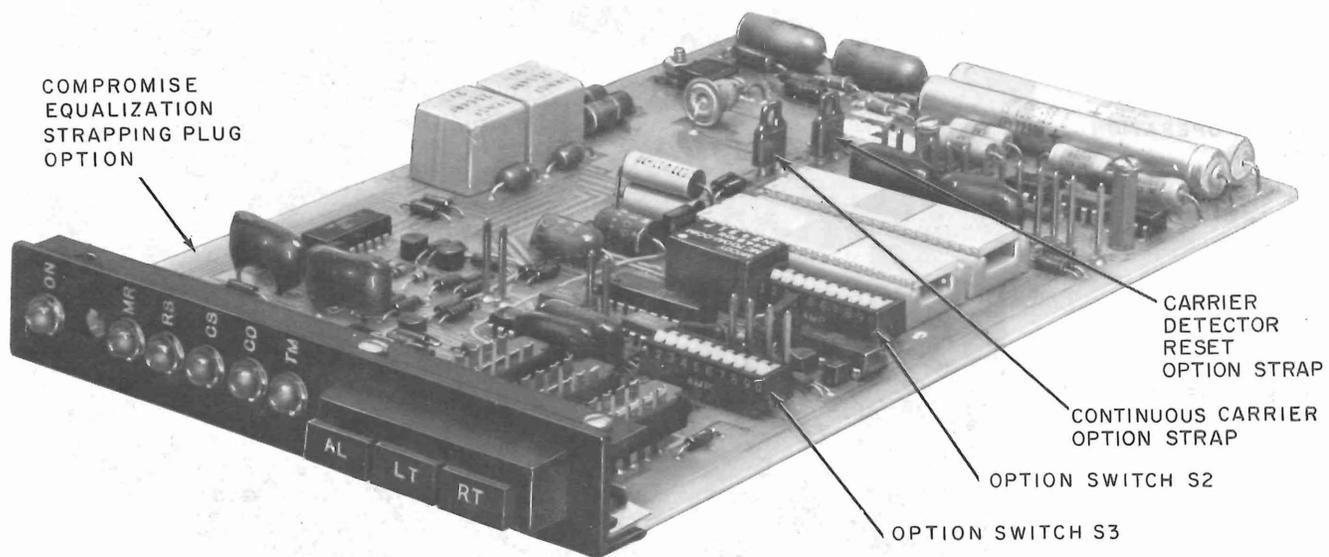

Fig. 12—Data Set 202T
2.11 Data Set 202T (Fig. 12): The faceplate of the data set provides six indicators (ON, MR, RS, CS, CO, and TM) and three pushbutton test switches (AL, LT, and RT). The data set is 5-1/2 inches high, 1-1/2 inches wide, 10-3/8 inches deep, and weighs 1-1/2 pounds.